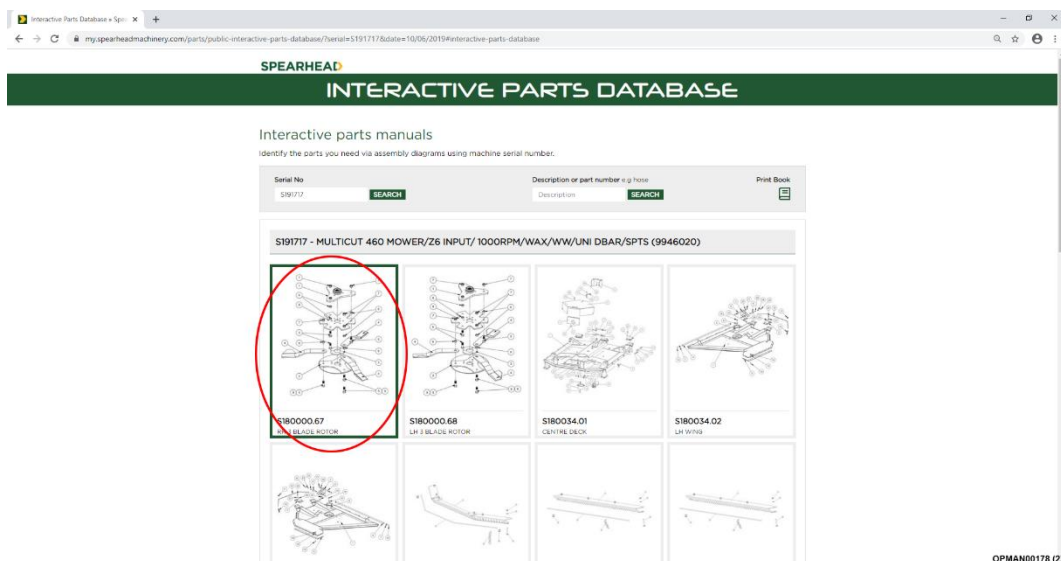

Figure 25 – Click On Assembly
7.1.1.3 After clicking on the serial number a full parts breakdown, specific to the machine serial number will appear showing the various parts and assemblies of the machine. Click on the specific assembly picture required; see Figure 25.